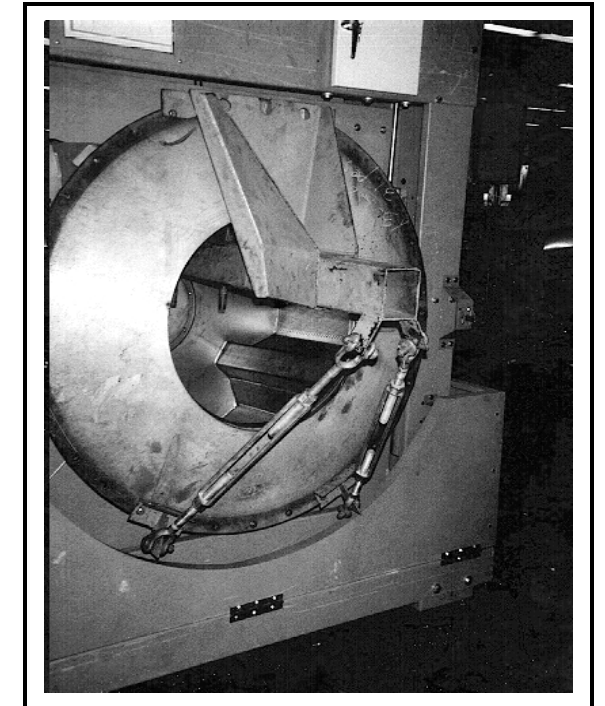

FIGURE 3 (MSSMA403AE)
3. As can be seen in FIGURE 3, this fixture mounts to the shell front using the top 5 shell front mounting bolt holes and 4 holes on the bottom of the shell front (2 pair of holes separated by 3 bolts). Remove these nine bolts from the shell front.
- c) Cylinder support beam (see FIGURE 3)